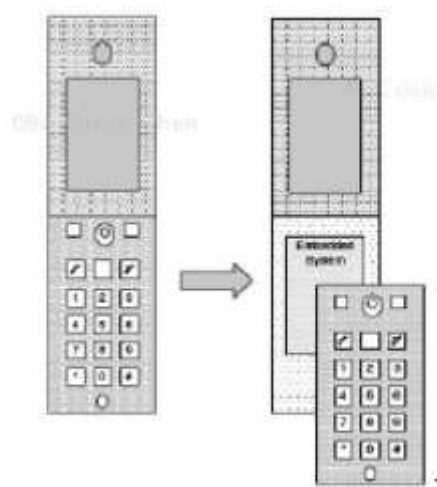

Figure 1.1: A simple embedded system
- Embedded system is a system within another system see figure 1.1